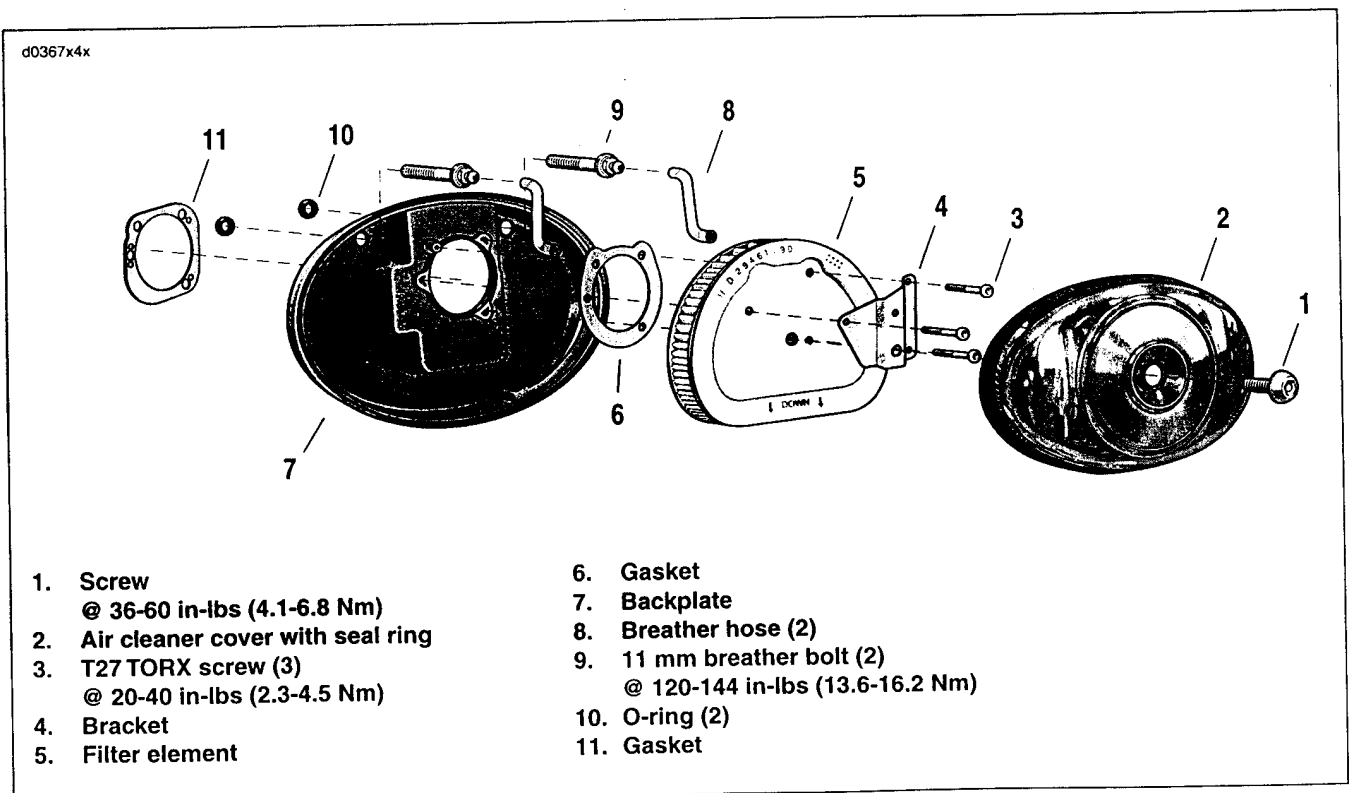
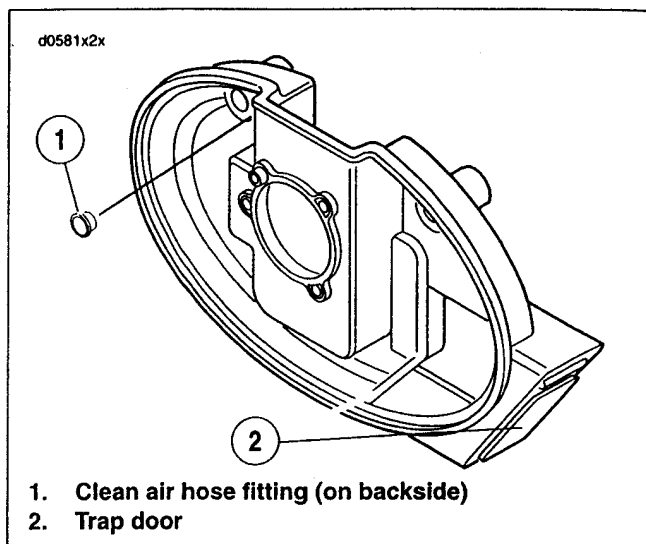

Figure 4-14. Air Cleaner Assembly
Figure 4-15. Backplate-California Models
1. See Figure 4-14. Remove screw (1) and air cleaner cover (2).
2. Remove three TORX screws (3) and bracket (4) from filter element (5).
3. Gently pull both rubber breather tubes (8) from the back of the element. Remove filter element and gasket (6).
5. Gently pull breather tubes (8) from breather bolts (9) on the backplate.
7. Inspect seal ring on cover (2) for cracks or tears. Verify that it seals tightly to backplate. Replace as required.
8. Alternately back out both breather bolts (9) (metric) a few turns a time while pulling backplate (7) away from carburetor.
9. Continue previous step until breather bolts are clear. Remove backplate (7), O-rings (10) and gasket (11). Discard gasket. On California models, disconnect clean air hose from backplate.
10. Wipe inside of air cleaner cover (2) and backplate (7) with damp cloth to remove dust.
11. On California models, make sure trap door swings freely. See Figure 4-15.
1. See Figure 4-14. Position new gasket (11) and two new O-rings (10) on backplate.
3. Insert two breather bolts (9) (metric) into backplate. Thread bolts loosely into each cylinder head. Tighten bolts to 120-144 in-lbs (13.6-16.2 Nm).
4. Insert two breather tubes (8) into the holes in back of the filter element. Place the element back into position and attach breather tubes to breather bolts.
5. Install air filter element (5) and bracket (4).
- a. Make sure gasket (6) holes are aligned with backplate holes.
- b. Use three TORX screws (3) to secure bracket and filter element. Tighten to 20-40 in-lbs (2.3-4.5 Nm).
6. Install air filter cover (2).
- a. Apply a drop of LOCTITE THREADLOCKER 243 (blue) to threads of air cleaner cover screw (1).
See Figure 4-15. California models have unique backplates. These parts may be distinguished by: